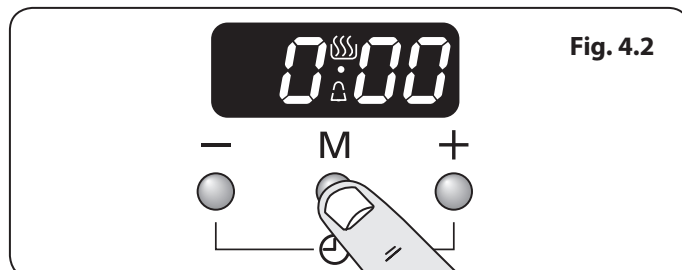
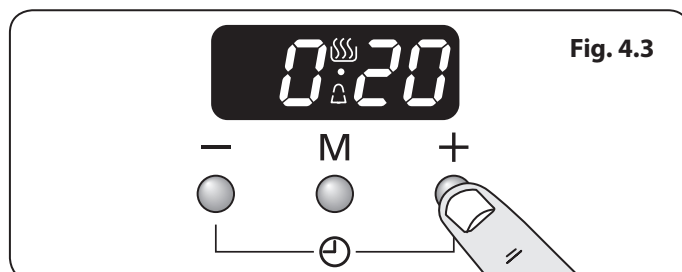

Fig. 4.2
Fig. 4.3
1. Press the mode [M] button once (**Fig. 4.2**). The bell symbol [🔔] will flash on the display. Select the desired countdown from 00:01h to 23:59h using the [+] button (**Fig. 4.3**). The countdown will automatically begin and the [🔔] symbol will show in the display.